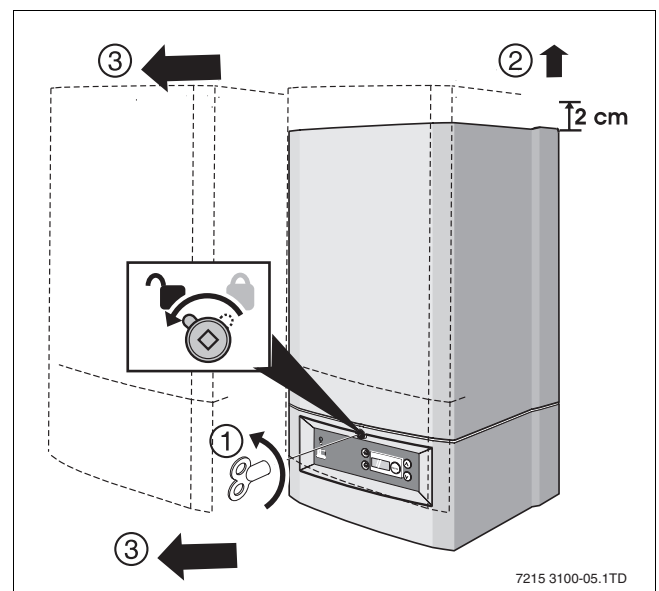

Fig. 5 Remove casing
- Open the locking mechanism using a radiator key (→ fig. 5, item 1). The radiator key is included in the delivery of the boiler in the accessories bag.
- Detach the casing of the condensing gas boiler (→ fig. 5).
- Open the case locking mechanism, using a radiator key (→ fig. 5, item 1). The radiator key is included in the delivery of the boiler, in the accessory bag.